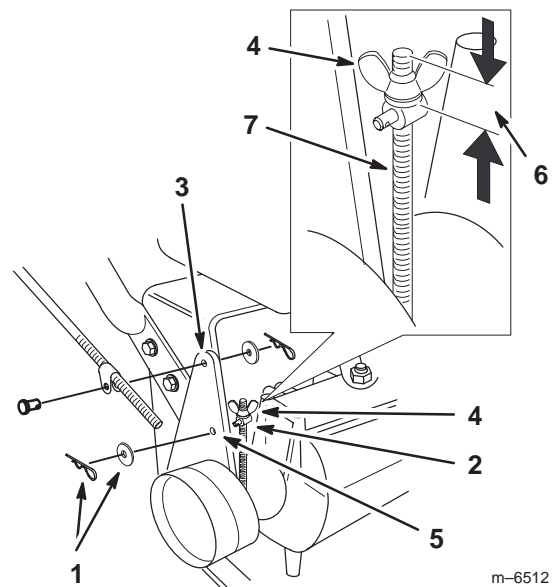

Figure 35
Note: For the initial adjustment, adjust the wing nut until it is 1–1/4 inches from the top of the rod (Fig. 35).
5. To adjust the brake remove the hair pin cotter and washer from the brake lever and trunnion (Fig. 35).
8. Install the trunnion into hole F (Fig. 35). Tighten the wing nut.
9. Secure trunnion to brake lever with washer and hair pin cotter (Fig. 35).